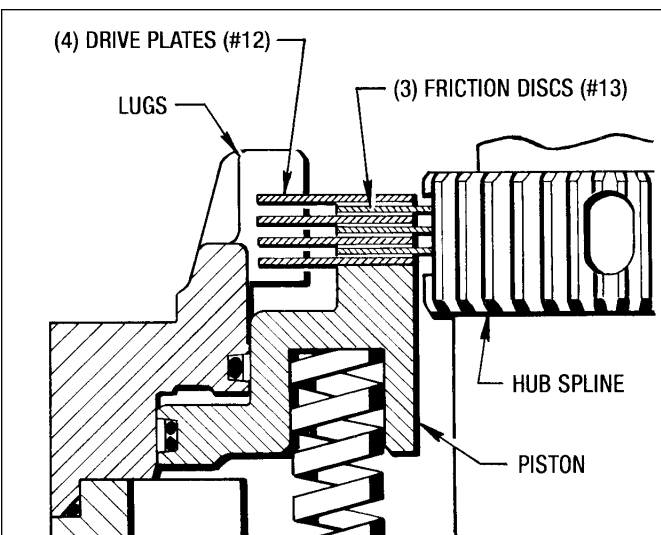

Figure 9.9 - Brake Stack - Horizontal Brake
First install a Drive Plate (#12) then a Friction Disc (#13). There will be a total of (4) Drive Plates (#12) and (3) Friction Discs (#13). You will end up with a Drive Plate (#12). (See Figure 9.9)